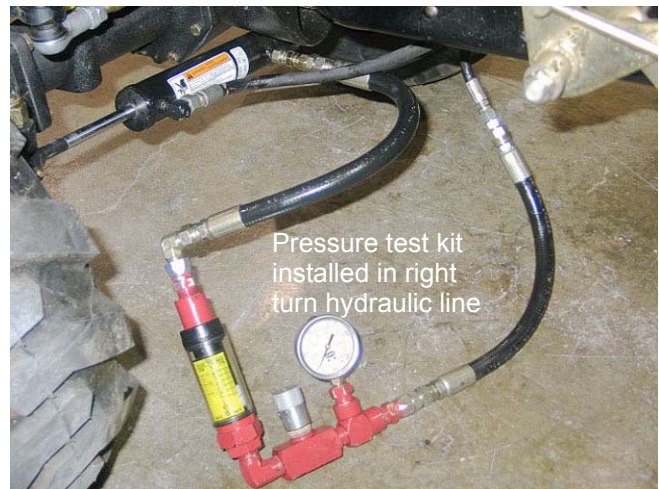

Figure 7.12
7.12. Connect the test kit so that the pressure gauge side (as opposed to the flow meter side) is near the source (steering unit). See Figure 7.12.